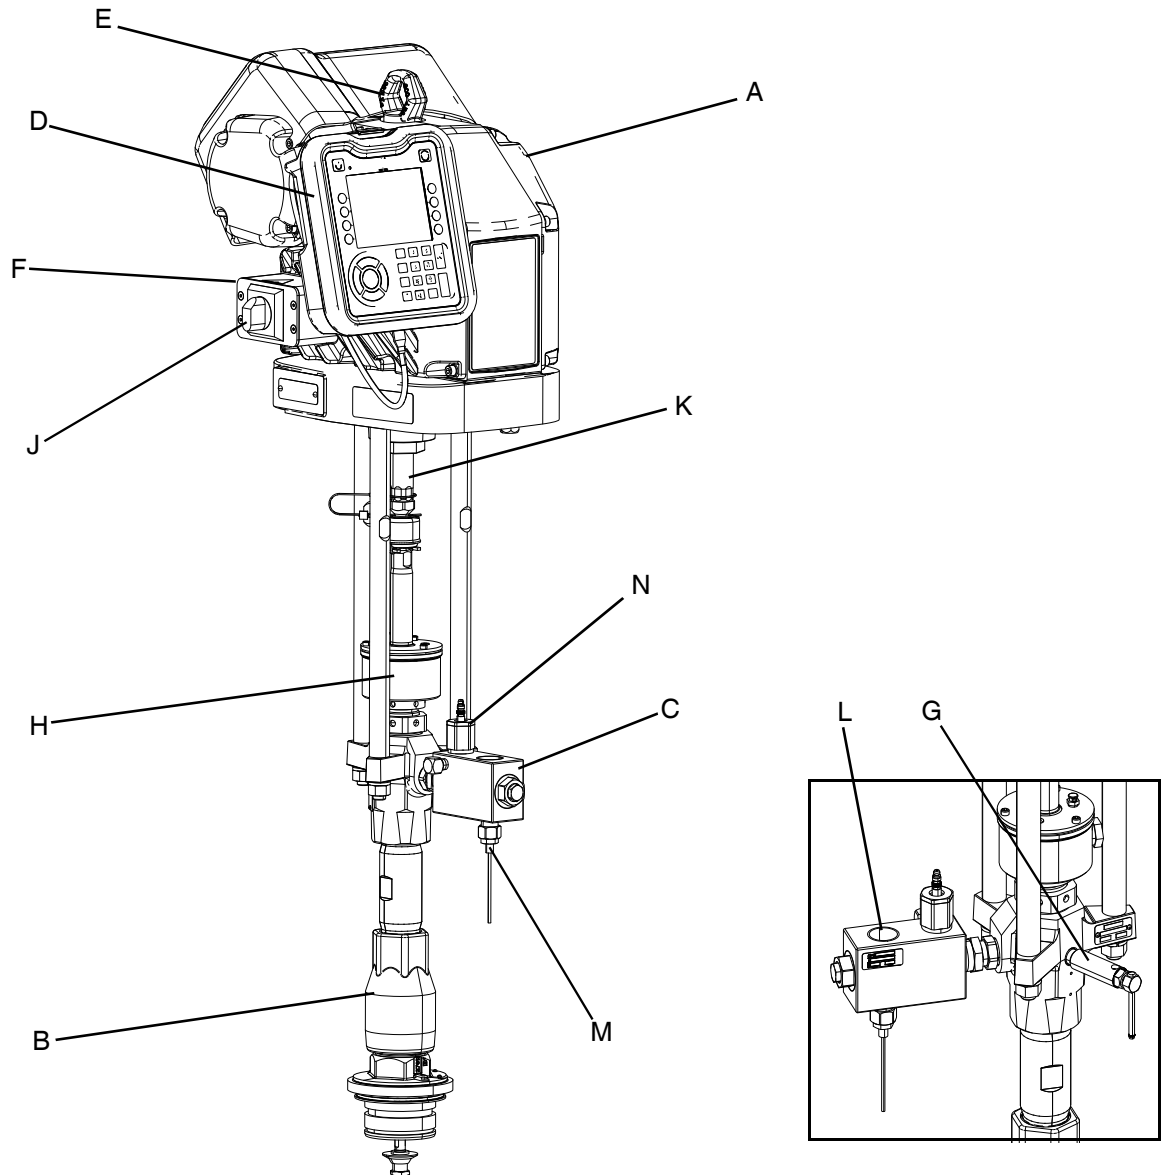

FIG. 1: E-Flo SP Components
Attach a chain or hook at the proper lift location. Lift off the pallet using a crane or a forklift. See the lift ring (E) in **Figure 1** on page 7.